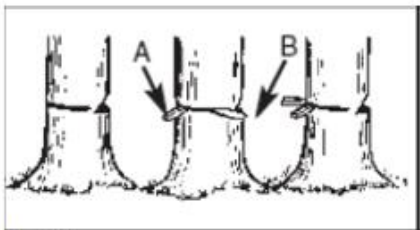

Fig 3c
Use wooden or plastic wedges (A) to avoid catching the blade or chain (B) in the cut. Feathers also have the role of controlling the fall (Fig. 3c)